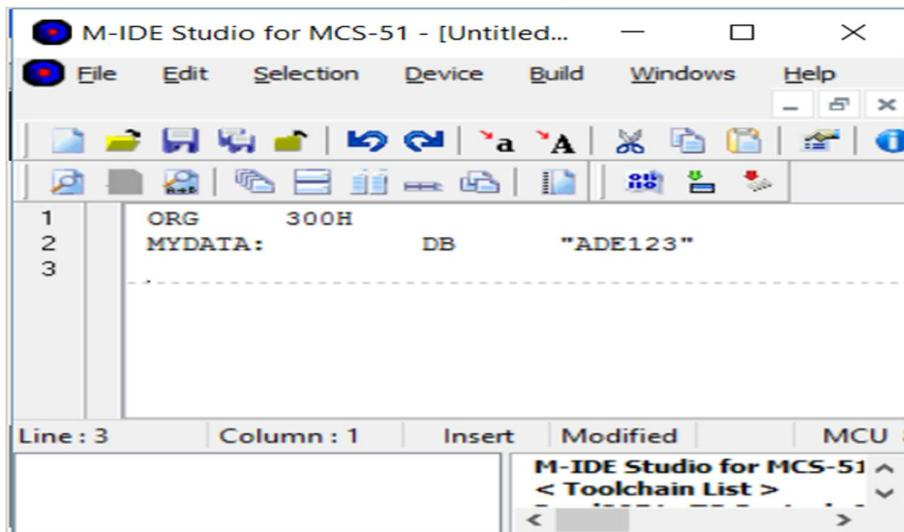

Figure 4.2: Writing Code in MIDE-51
- b. Click File → New. Write the following small test code in the window as shown in Fig 4.2: